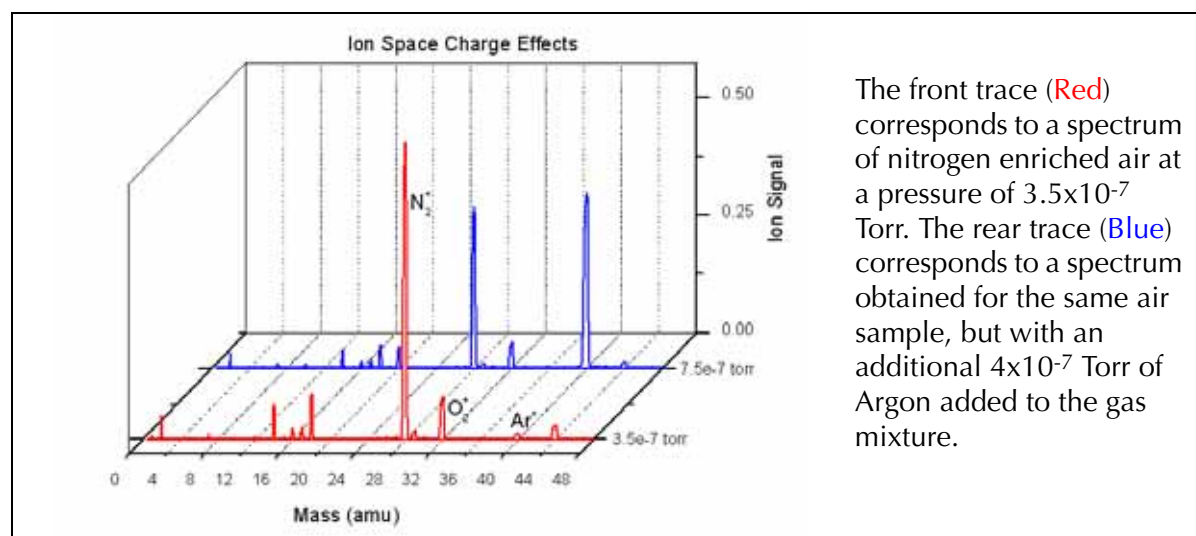

Figure 6-11 Space Charge Saturation Effects
The number of ions stored inside the ion trap is the result of the interaction between four competing processes: (1) ionization rate (gain, function of electron emission current and pressure), (2) autoresonant ejection efficiency (loss, function of controller settings), (3) ion-neutral scattering collisions (loss, function of pressure), and (4) space charge saturation (loss, electrostatic repulsion). One important characteristic of ion traps (not peculiar to the VQM MS Gauge) is the fact that electrostatic forces set an upper limit to the total number of ions that can be stored in the oscillating ion beam. The VQM Mass Spectrometer Gauge, operated under factory default settings, will typically achieve full charge capacity at pressures above 2×10^{-7} Torr, and well before ion-neutral scattering collisions set in. Nonlinearities between partial pressure and peak intensity can be observed at vacuum levels as low as 1×10^{-9} Torr. Since the amplitude of the mass peaks is directly related to the number of ions stored in the confined beam, and since the number of ions stored does not scale with partial pressures of the components, ion peak signal amplitudes in a mass spectrum should not be expected to scale with the absolute partial pressures of the gas components in the mixture. Figure 6-11 shows an example of the charge density saturation effects that occur in the ion trap. The front trace (Red) corresponds to a spectrum of nitrogen enriched air at a pressure of